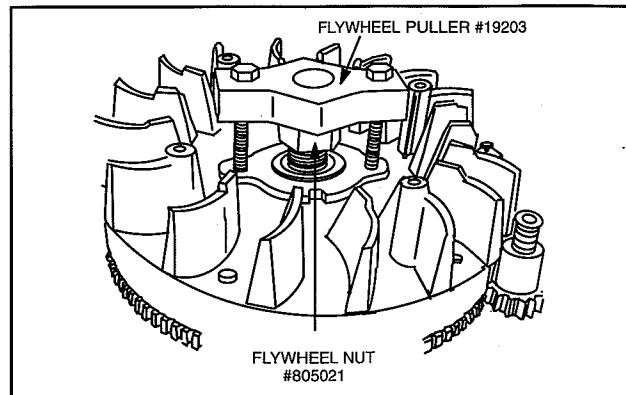

Fig. 6 – Remove Flywheel
3. Tighten puller screws equally until flywheel loosens, Fig. 6.